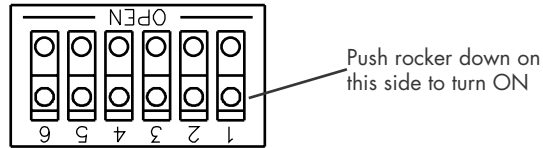

Figure 10 - Serial Connector Rear View
- It is best to set the unit on a flat surface. With the Alarm placed so that the Input/Output connectors are facing towards you, unscrew the four (4) screws that hold the cover on. They are retained in the cover so there is no need to remove them completely.
- Locate the DIP switches and then using a stylus or small screwdriver, close the DIP switch for the system you wish to enable. Refer to Table 9 and Figure 10 to select the correct DIP switch.